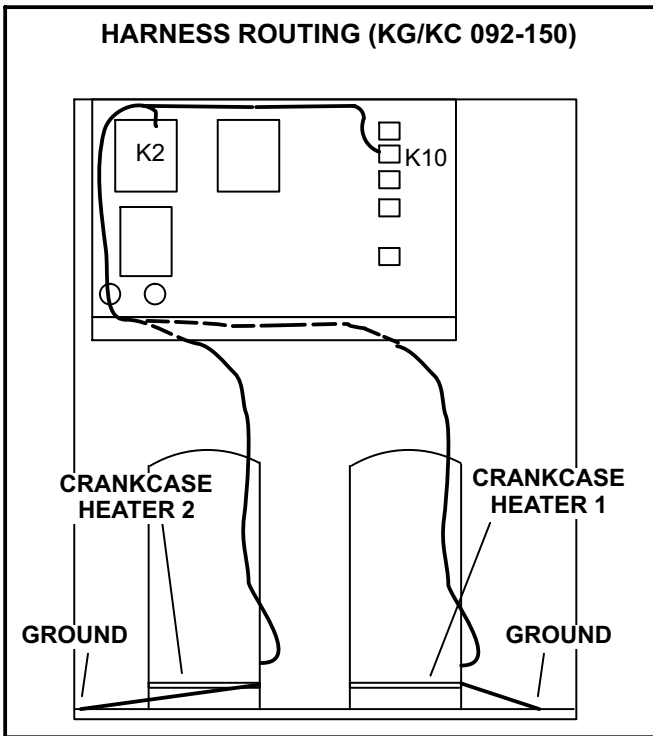

FIGURE 2
- 3- Route harness as shown in figure 2.